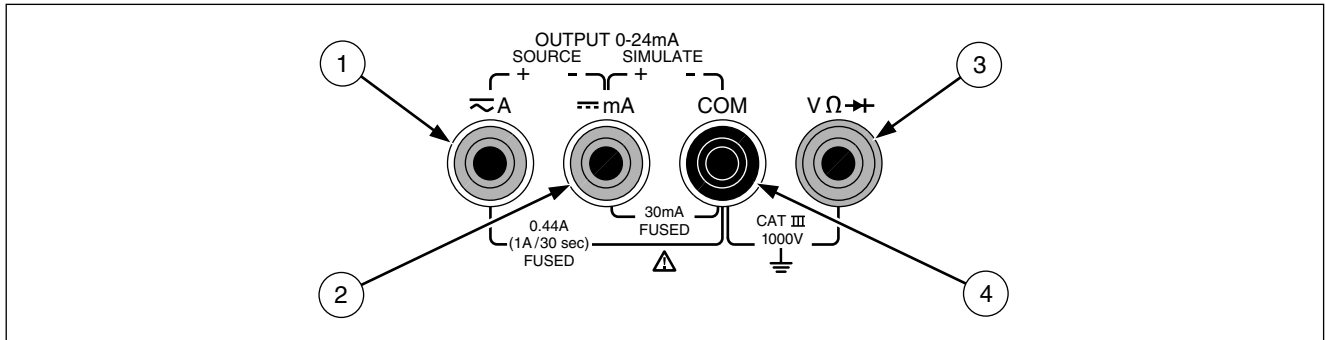

Figure 2. Input/Output Jacks
- Figure 2 and Table 2 describe the input/output jacks.